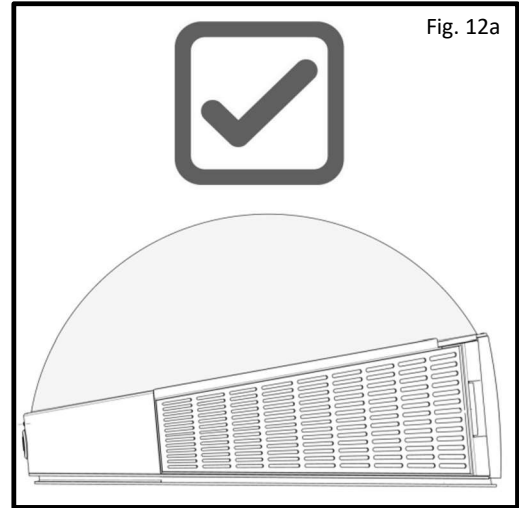

Fig. 12a
- Hold the visor and push down to compress the foam, while inserting the filter with the other hand. Reinsert the filters (Fig. 4c & Fig 4d, page 11). Only a fully seated visor can fit inside the filter flanges (Fig. 12a & 12b).